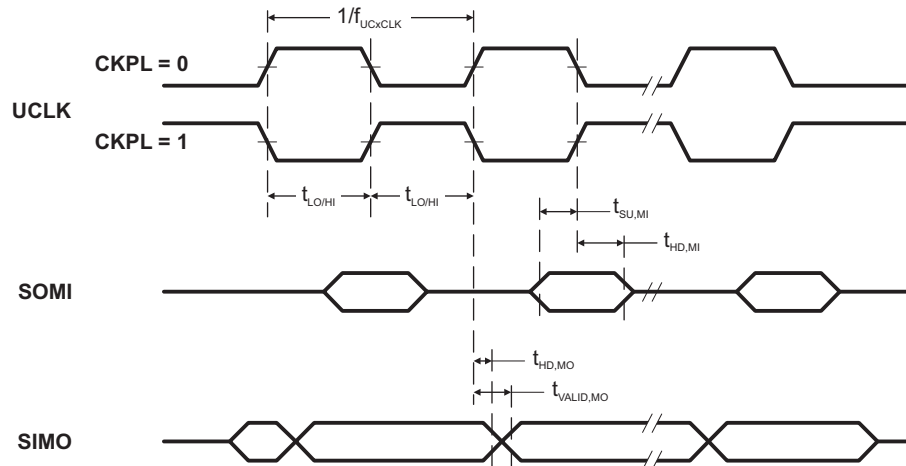

Figure 12. SPI Master Mode, CKPH = 0
(see Figure 12 and)
- (2) Specifies the time to drive the next valid data to the SIMO output after the output changing UCLK clock edge. See the timing diagrams in Figure 12 and .
- (3) Specifies how long data on the SIMO output is valid after the output changing UCLK clock edge. Negative values indicate that the data on the SIMO output can become invalid before the output changing clock edge observed on UCLK. See the timing diagrams in Figure 12 and .